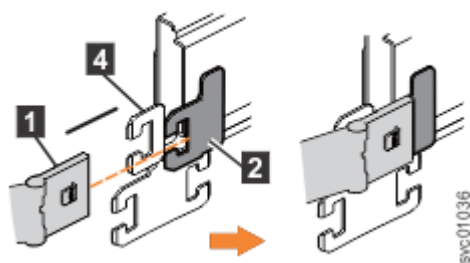

Figure 52. Install the inner connector of the upper CMA to the inner member of the support rail
2. Install the inner connector of the upper CMA assembly (1) to the inner member of the left support rail (2), as shown in Figure 52 on page 56.